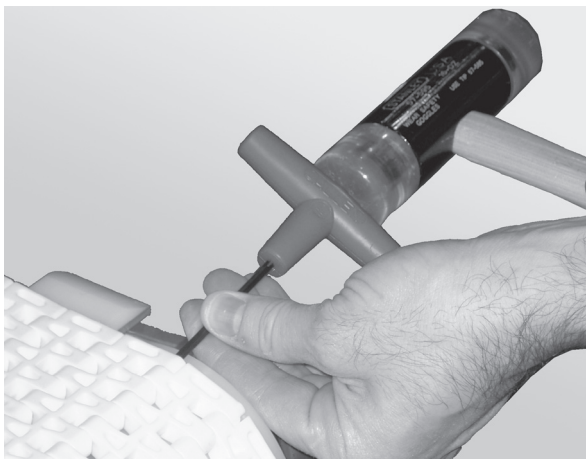

Figure 49
3. Use a punch and hammer to push the belt rod out by striking the rod end opposite the retaining head (**Figure 49**).